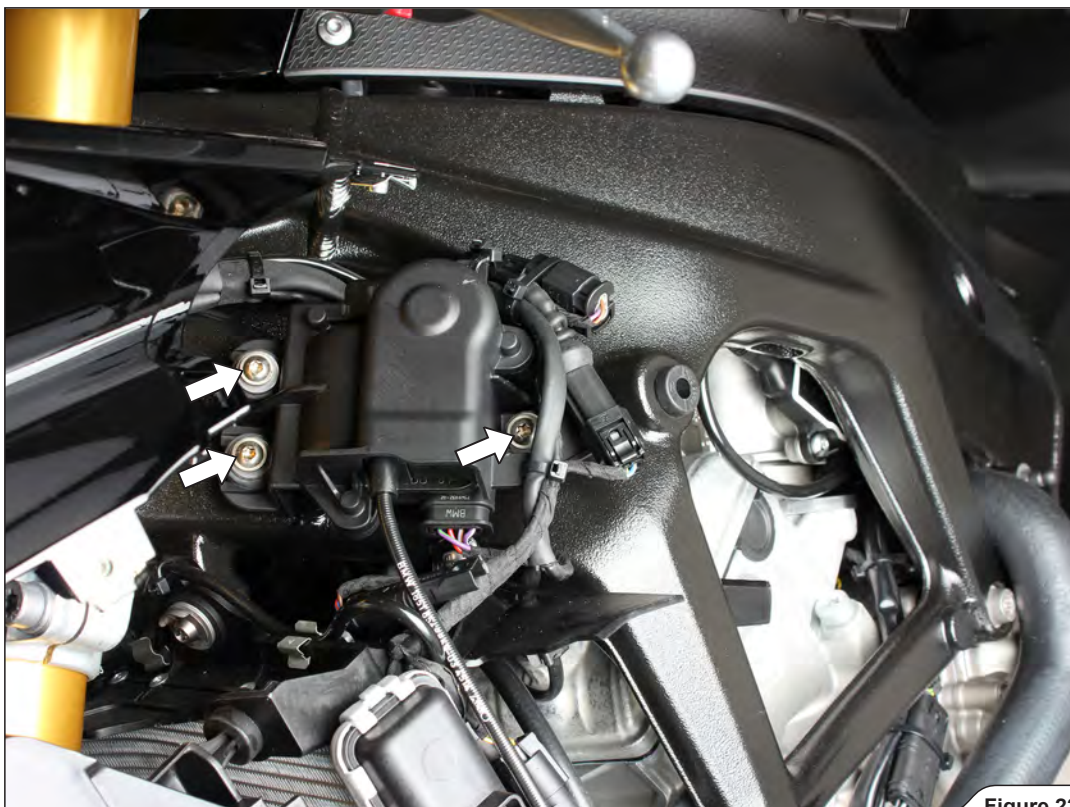

Figure 22
16. Unscrew the front exhaust valve's servo motor off the chassis (Figure 22).